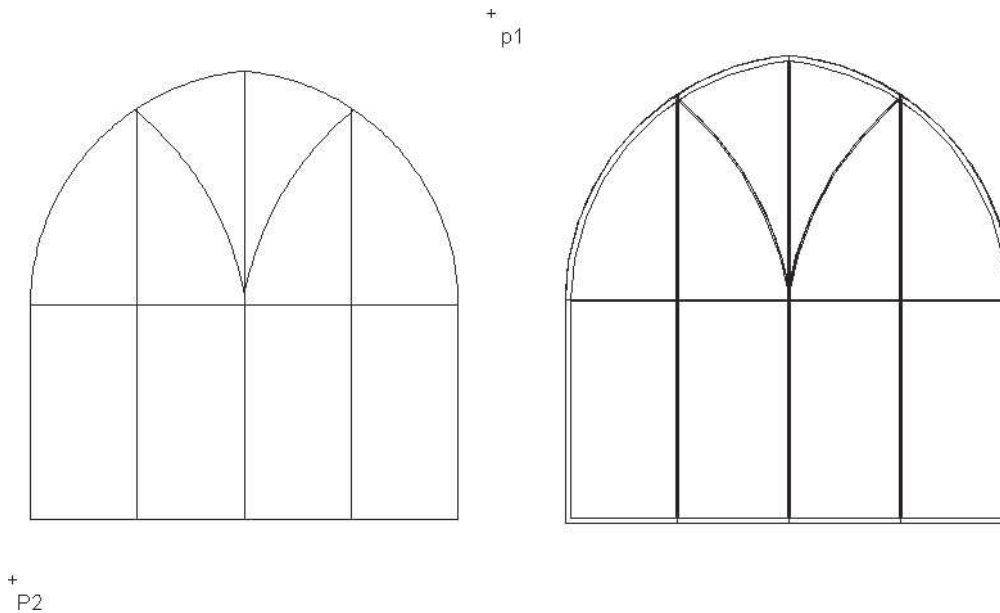

FIGURE 6.51 Converting a sketch to a curtain wall
The sketch shown at the left in Figure 6.51 consists of lines and arcs. The sketch was converted to a curtain wall in the following workspace sequence.
- Select elevation linework: (Create a crossing window: select a point near p1 as shown in Figure 6.51.)
- Specify opposite corner: (Select a point near p2 as shown in Figure 6.51.) 3 found